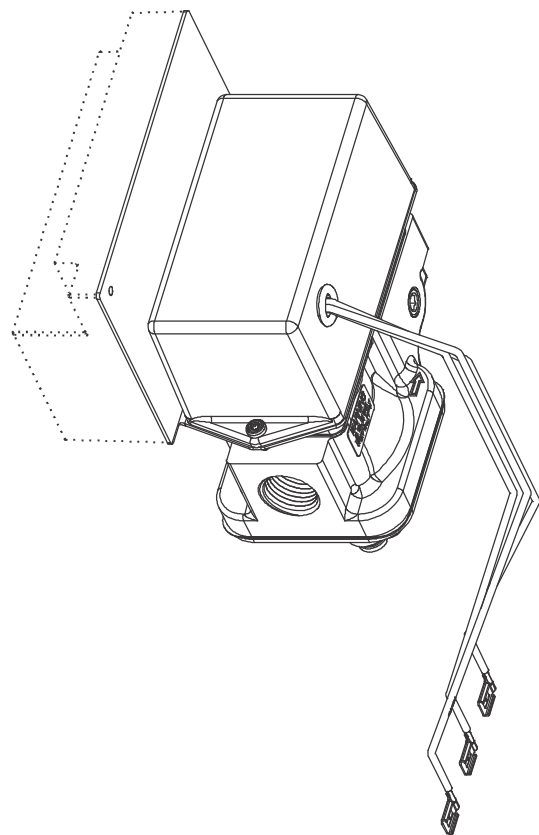

Figure 12: Completed Assembly
13. The valve assembly is now complete and should look like Figure 12, depending on the kit you have and the valve assembly.